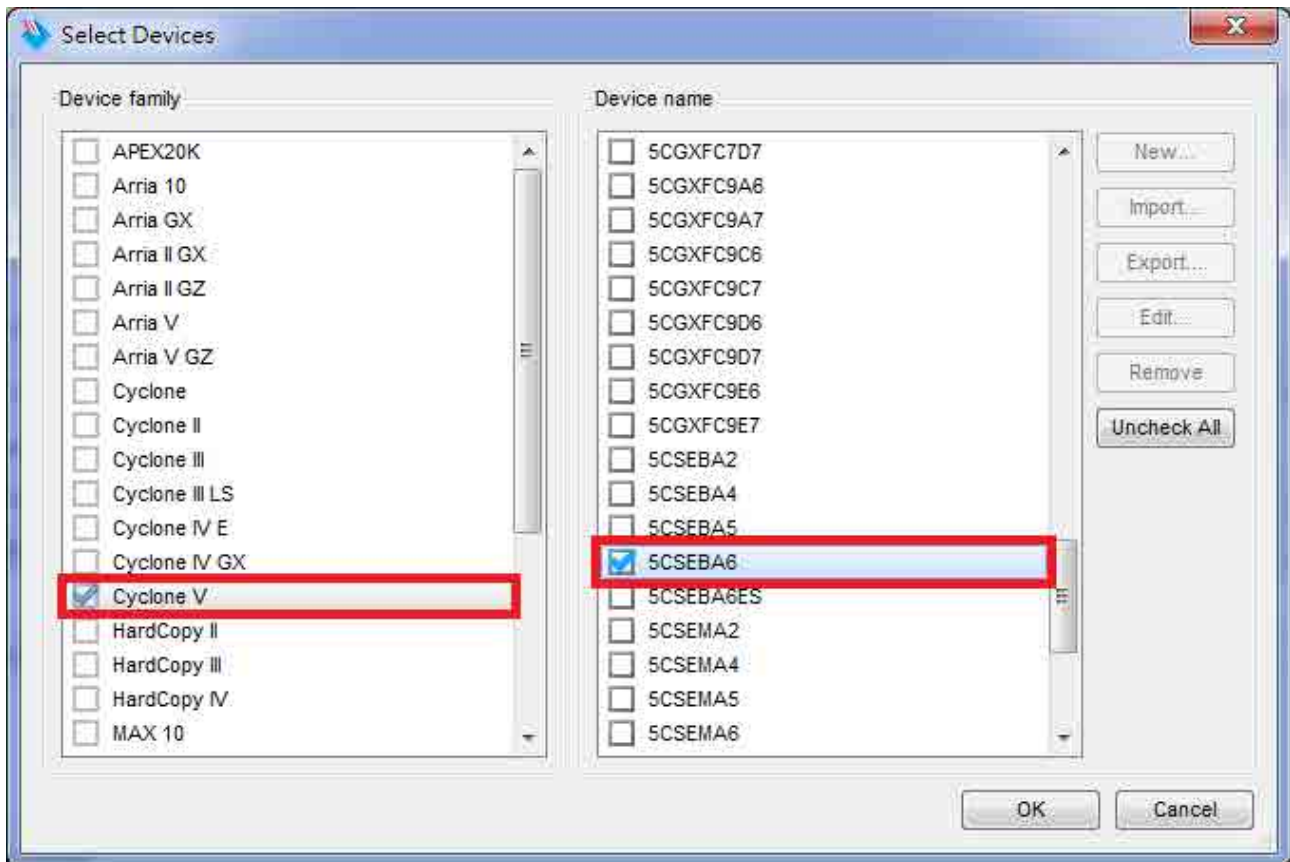

Figure 8-5
11. The **Select Devices** page will appear, please select the targeted FPGA to be programed into the EPCS, as shown in **Figure 8-5**.